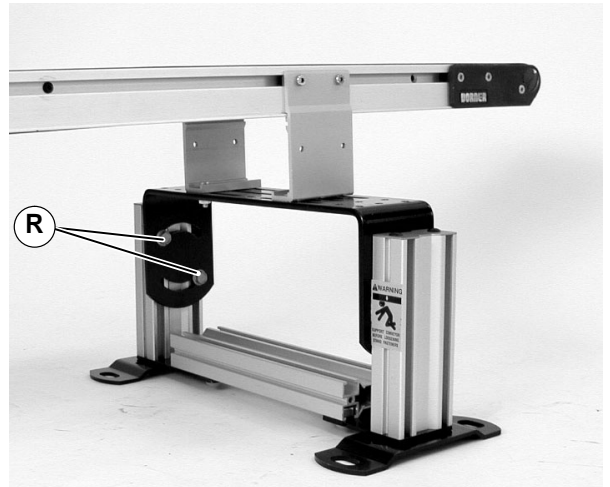

Figure 15
2. Raise or lower mounting bracket (H) to the required height.
3. Tighten flange head hex screws (R of Figure 15) to 150 in-lb (17 N-m).